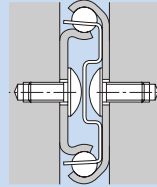

Fig. 2
The slide rail is to be mounted using M4 screws. Since the mounting space is small as shown in Fig. 2, we recommend using truss head screws or binder screws.
- C : Basic dynamic load rating* (N)
- P_c : Dynamic equivalent radial load (N)
- f_r : Temperature factor (see Fig. 2)
* Note: The basic dynamic load rating (C) of the Cross-Roller Ring shows the radial load with constant direction and magnitude, under which the rated life (L) is 1 million revolutions when a group of identical Cross-Roller Ring units independently operate under the same conditions. The basic dynamic load rating (C) is indicated in the "THK General Catalog - Product Specifications," provided separately.